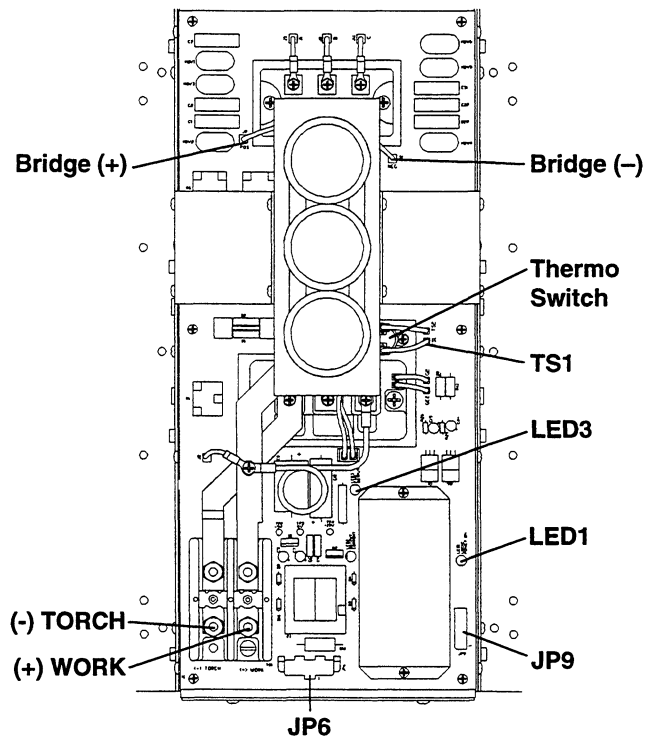

Figure 5-3 Chopper Module - Front View
3. Place the positive lead to the + side of the bridge and the negative lead to the – side of the bridge. See Fig. 5-3. Note that actual connection points are hidden by cap support bracket in Fig. 5-3.
5. If voltage from above step is +280 VDC and F5 is not blown, check output of chopper by putting the positive lead of the voltmeter at point (+) WORK and placing the negative lead on point (-) TORCH. See Fig. 5-3.